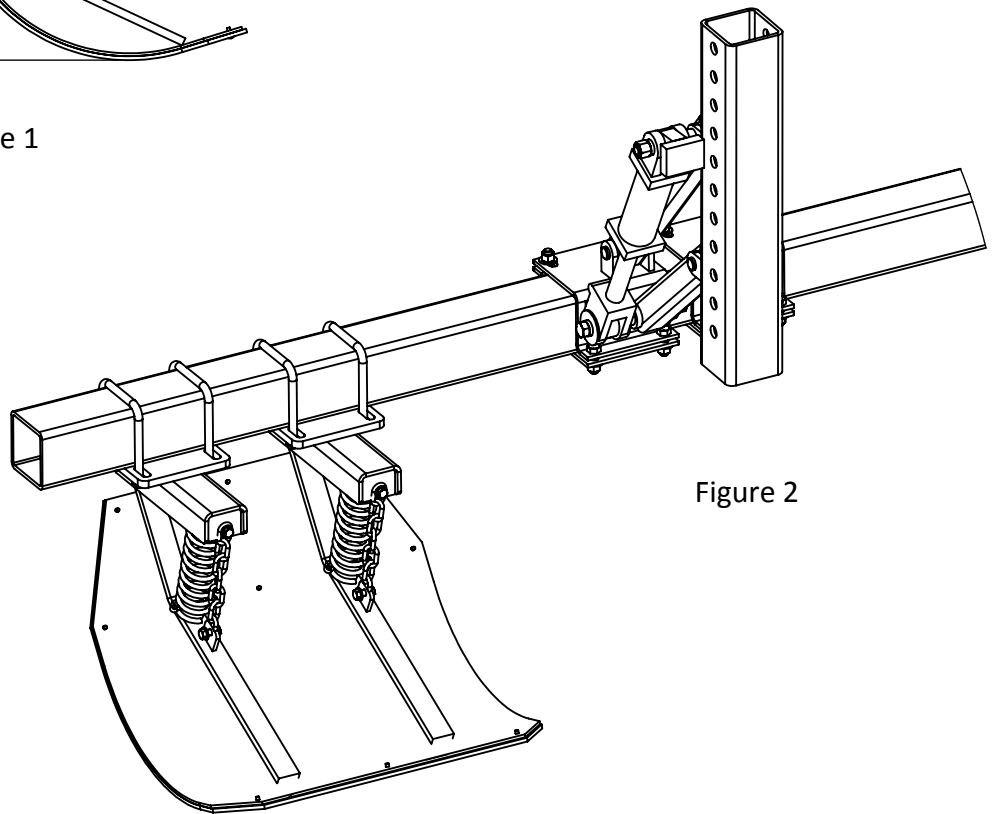

Figure 2
-Mount Stalk Stomper Assy(s)* to the 4" x 4" x 1/4" (sidewall) Toolbar* (purchased or customer supplied) as shown below in Figure 2. Position Stalk Stomper Assy(s)* centered with tractor tires/tracks.